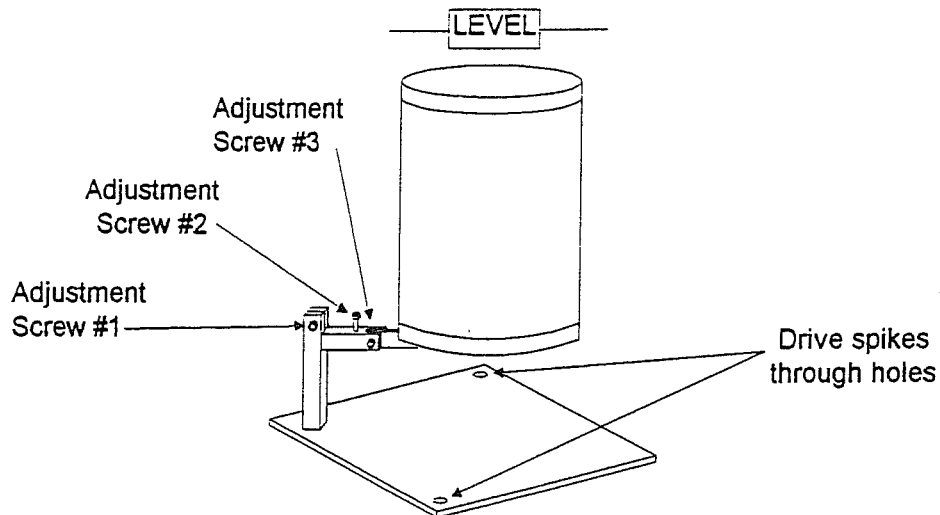

Figure 4-16
4. Loosen level adjustment screw #1 (see Figure 4-16) and rotate pivot until approximately level.
5. Loosen level adjustment screw #3 (see Figure 4-16) and center bubble in level using level adjustment screw #2.